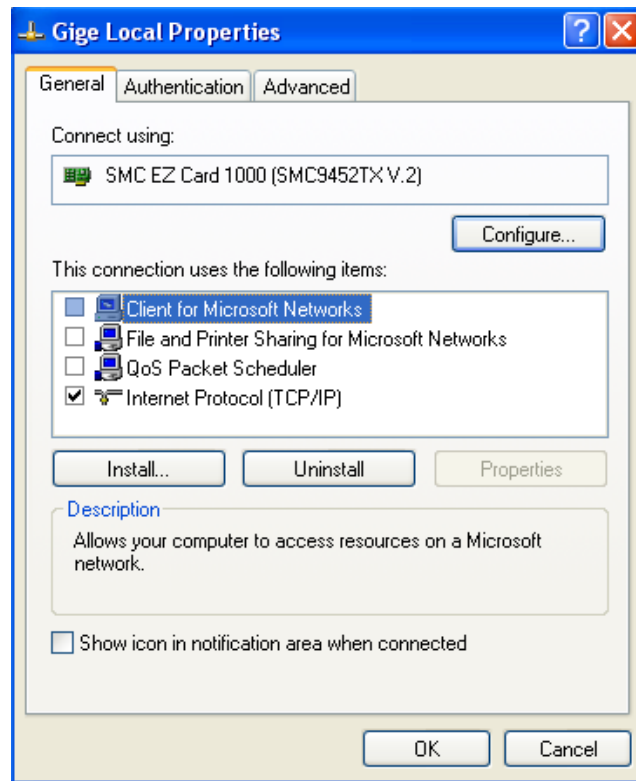

Figure 8. Network card main properties window.
- Open the Network Connections Dialog as follows: From the Windows desktop select **start**, then select **Control Panel**, then double click on the **Network Connections** icon. Double click the relevant network card listed or right-click the relevant network card and select **Properties**. This will open the properties window for your network card. See Figure 8.
- From the main properties dialog as in Figure 8, make sure that only the **Internet Protocol (TCP/IP)** check box is selected then click **OK**. The card is now optimized for use with the Prosilica GS camera.